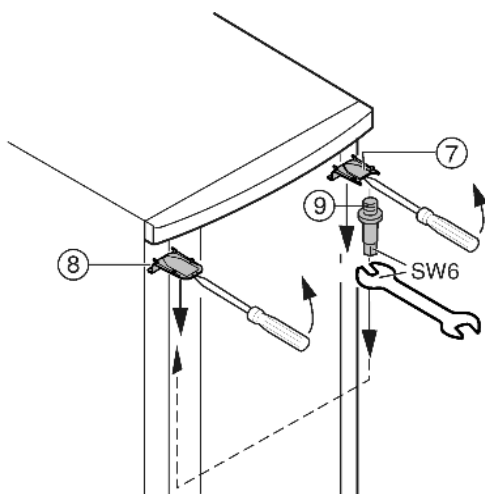

Fig. 6
- ▶ At the top, use a screwdriver to unclip cover Fig. 6 (7) and cover Fig. 6 (8) at the front, and remove by pulling out and down.
- ▶ Unscrew the bearing pin Fig. 6 (9) and screw it firmly into place on the opposite side (**with 4 Nm**).
- ▶ Refit the cover Fig. 6 (7) on the side of the bearing pin: insert at the back, snap in at the front.
- ▶ Fit the cover Fig. 6 (8) on the opposite side: insert at the back, snap in at the front.
- ▶ Hang the door on the bearing pin Fig. 6 (9) at the top.